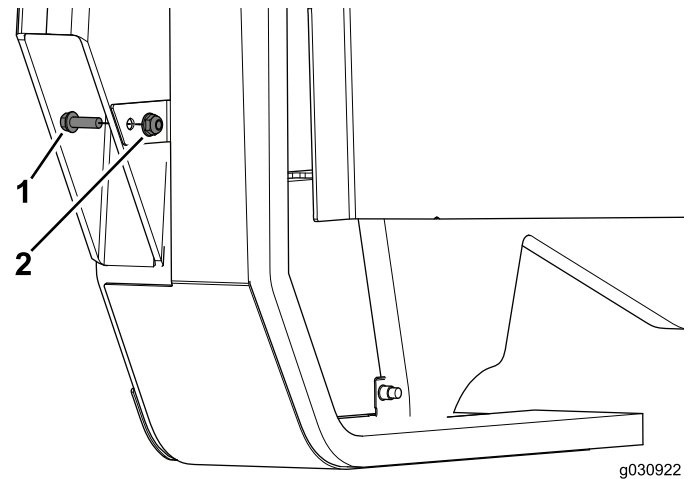

Figure 28
4. Use the bolt (1/4 x 3/4 inch) and flange nut to complete the installation of the panel assembly (Figure 28).